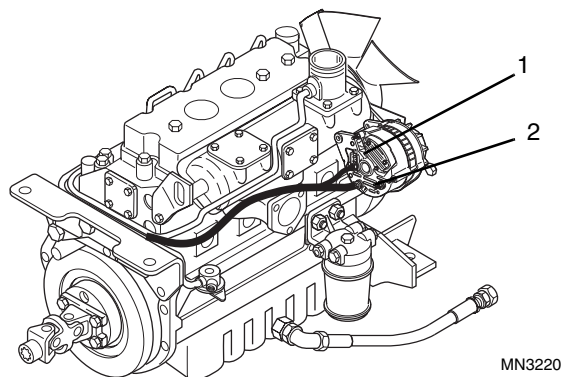

Figure 10-92 Alternator Wiring
22. Connect yellow wire #7 (Fig. 10-92, 1) to alternator spade terminal.
23. Connect red/gray wire #19 (Fig. 10-92, 2) from B+ alternator terminal.